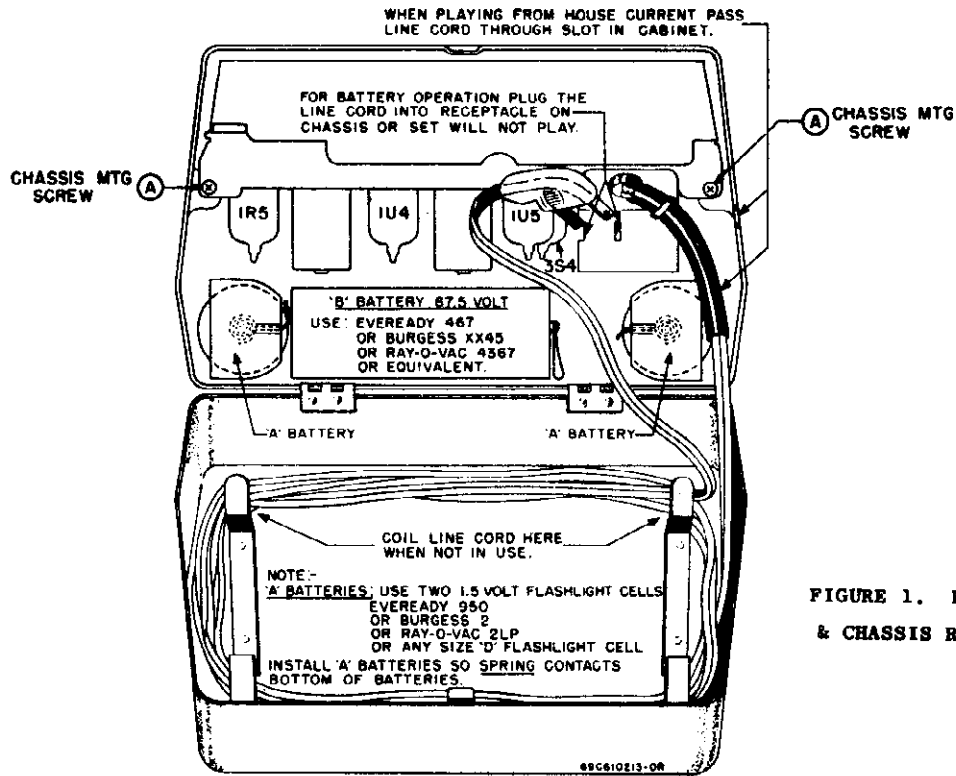

FIGURE 1. BATTERY INSTALLATION & CHASSIS REMOVAL INSTRUCTIONS
BATTERY OPERATION. Open the back cover and install the batteries, following the instructions on the label inside the back cover (or see Figure 1). Insert the line cord plug into the receptacle on the chassis, or the receiver will not play from batteries. If the receiver is to be operated for a long period of time from 117 volts AC or DC, or is to be placed in storage, remove the batteries and store them in a
BATTERY REPLACEMENT. If low volume or fuzzy tone is noticed when operating from batteries, replace the flashlight cells. Normally, the 67-1/2V "B" battery will last for 3 or 4 changes of the flashlight cells. The condition of the batteries will not affect the operation of the receiver from 117 volts AC or DC. Complete battery replacement instructions will be found inside the cabinet back cover (or see Figure 1).
3. Remove the two Phillips head screws holding the chassis to the cabinet ("A" - "A" in Figure 1).